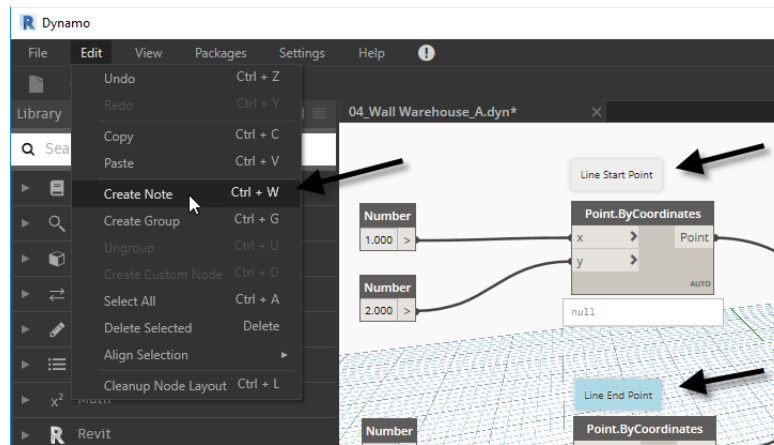

Figure 40
9. Create a second note, position above the other **Point.ByCoordinates** node, double-click it and change it to read: **Line End Point** (See Figure 40).